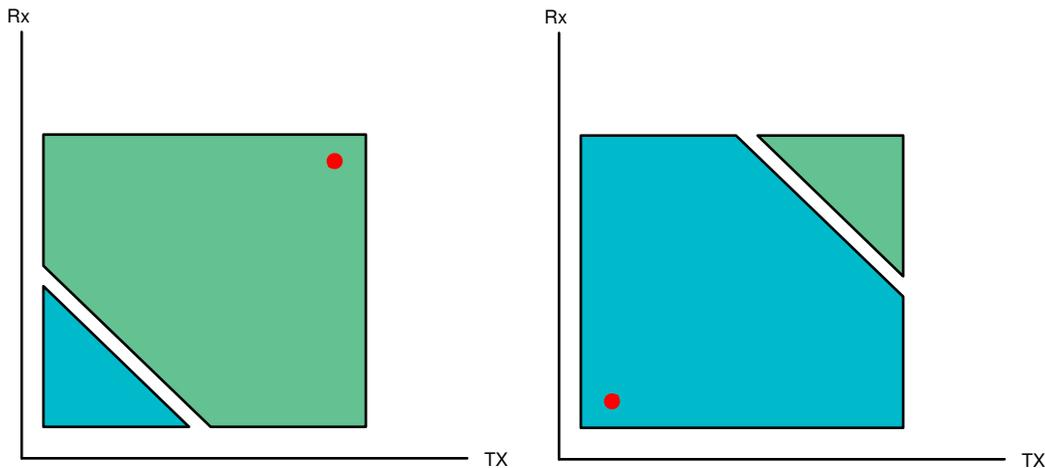

Figure 2-4. OTP Selection When Two Passing Regions are Present
In order to test whether a TX/RX/Read Delay combination passes, the tuning algorithm configures the PHY to that setting, and reads a known pattern from the OSPI memory. The test pattern can be found in the associated zip file: <http://www.ti.com/lit/zip/spract2>. The tuning algorithm searches along the line between points (1) and (2), testing TX/RX combinations between them, and identifies the position of the boundary represented by line (3). The algorithm then identifies which ref_clk target is associated with the largest passing region, and sets TX/RX delays into the corresponding corner, leaving some margin for the TX/RX minimum and maximum to shift. Figure 2-4 shows the placement of the OTP in two scenarios, based on which passing region is larger.